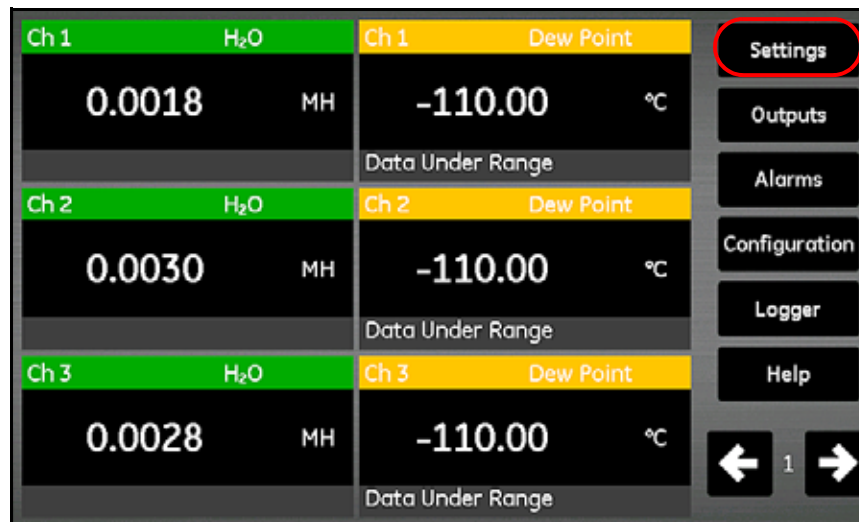

Figure 76: Settings Button on the Main Screen
4. From the main screen, tap the Settings button (see *Figure 76* below).